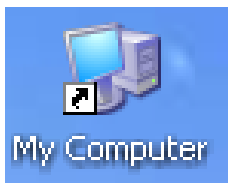
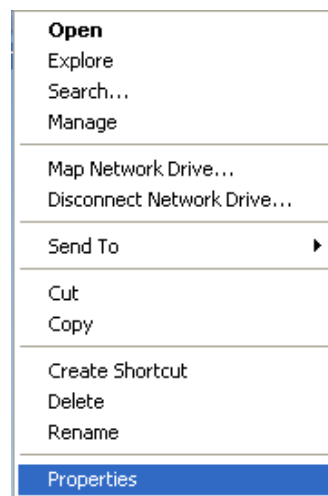

Fig.5-1
Fig.5-2
(1) On the computer desktop, right click the mouse as shown in Fig.5-1. A right button menu as shown in Fig.5-2 will then pop up.
(2) In Fig.5-2, choose Properties and right click the mouse. A window as shown in